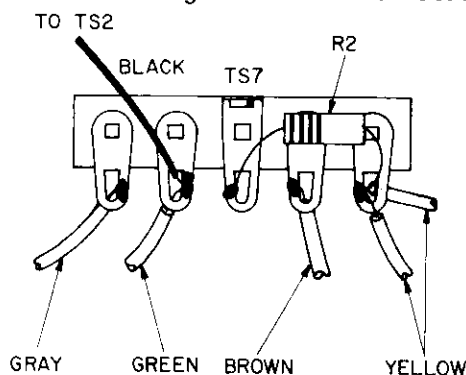

Figure 4.
transformer has three different voltage taps, which can be used to compensate for low or high filament voltage. Tempo 2000's are shipped with the medium (115 volt) tap connected, and may be used this way at most line voltages. However, for permanent installations, it will be best to check the line voltage and use the tap which will provide maximum tube life over a long period. Check the voltage at the wall socket to which the Tempo 2000 is to be connected during your usual operating hours. If this voltage is between 224 and 234 volts (112 to 117 volts if you are running the Tempo 2000 on a 115 VAC circuit), no change is necessary. If the line voltage is below 224 volts (112) move the black wire connected to terminal 2 of TS7 to terminal 4 of TS7. See Figure 4. If the line is above 234 VAC (117) move the black wire to terminal 1 of TS1. Note: even when using this tap, voltages over 264 VAC (132) will shorten tube life.